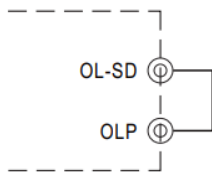

Fig. 5.1 Insert the CN3
2. Remove the shorting connector on CN3 that is shown in Fig 5.1, the Overload Protection Type will be “continuous constant current limiting”.